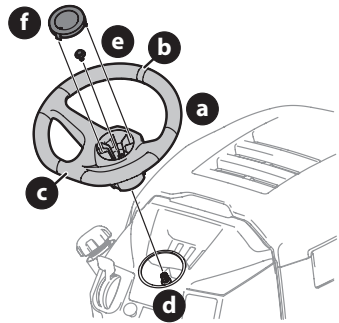

Figure 14
- With the wheels of the tractor pointing straight forward, align the steering wheel (a) by using the center-line (b) on the front of the steering wheel (a) pointing straight ahead and the flat section (c) of the steering wheel (a) facing toward the seat, place the steering wheel (a) over the steering shaft (d) (Figure 14).
- Secure the steering wheel (a) with the hex bolt (e) from under the steering wheel cap (f) and torque to 18-22 ft-lbs (24-30 N-m) (Figure 14).
- Place the steering wheel cap (f) over the center of the steering wheel (a) and push downward until it "clicks" into place (Figure 14).
NOTE: The hex bolt (e) securing the steering wheel (a) has thread locker applied to it, so if it is removed, it is recommended that the hex bolt (e) be replaced or thread lock re-applied (Figure 14).